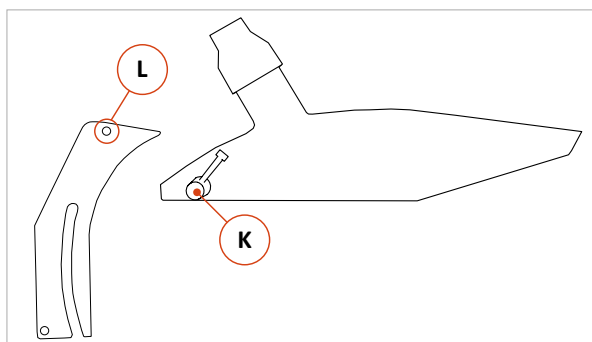

Figure 31: Fitting the saw blade guard
**Important:** Before adjusting the riving knife, remove the saw blade guard attached to it by unscrewing the clamping lever (K) shown in ⇒ Figure 31, with which the guard is mounted on the riving knife.